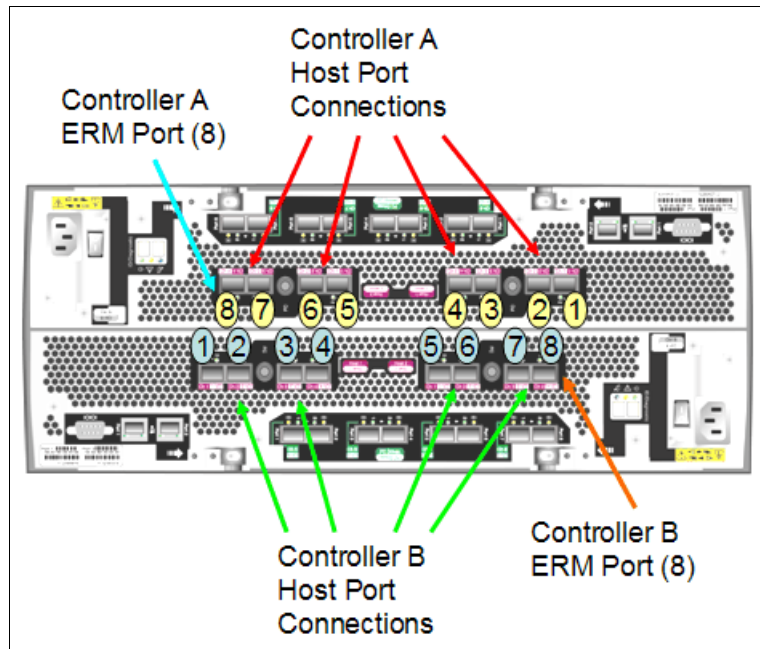
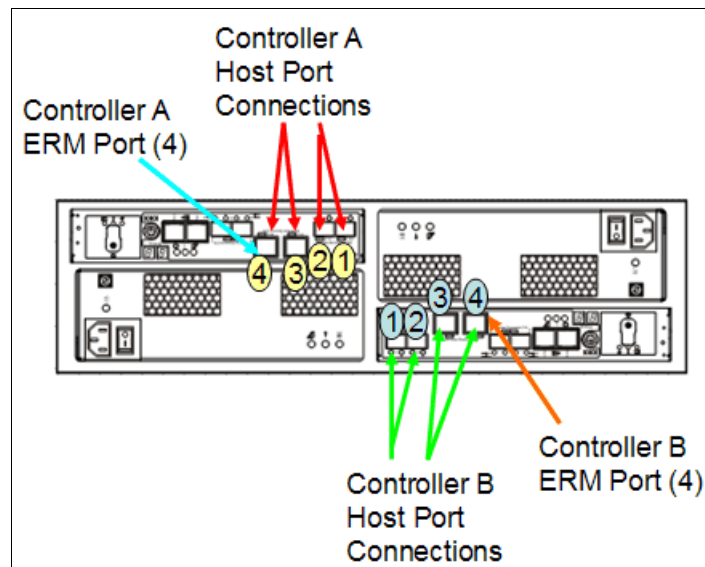
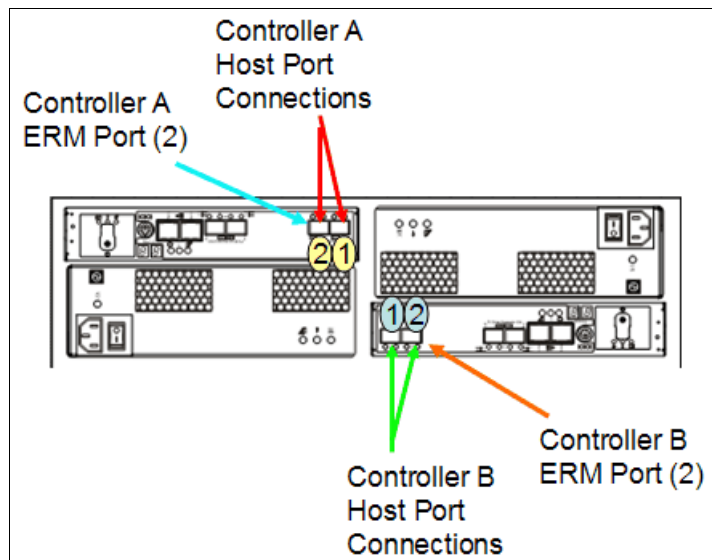
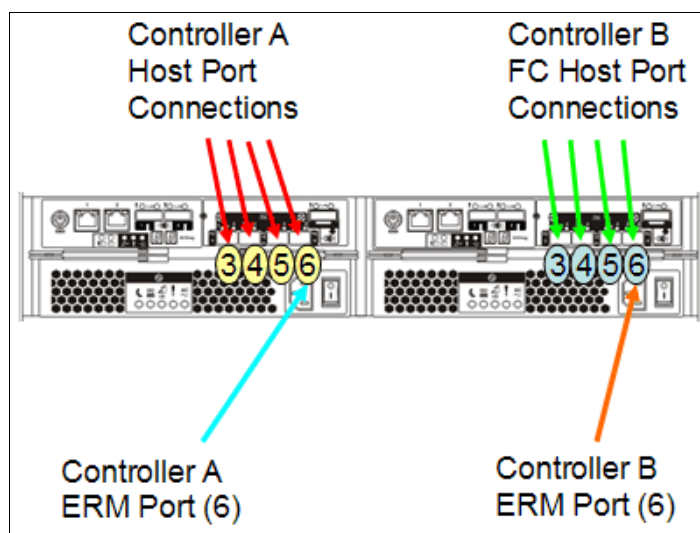

Figure 4-9 Host-side ports for host and ERM connections on DS5100 and DS5300
Figure 4-10 Host-side ports for host and ERM connections on DS5020 with expanded ports
Figure 4-11 Host-side ports for host and ERM connections on DS5020 base model
Figure 4-12 Host-side ports for host and ERM connections on DS3500
- ▶ On the DS5100 and DS5300 the host port on controllers A and B assigned to ERM is port 8. With the DS5020 and expanded FC host ports, the host port used for ERM is port 4. And with DS5020 base configuration host port 2 on controllers A and B would be used. See Figure 4-9, Figure 4-10, Figure 4-11 on page 126, Figure 4-12 on page 126 for the host-port locations.
- On the DS5020 with four 4 Gbps FC host ports, use host ports A2 and B2; see Figure 4-11 for the host-side port locations.
- With the DS3500 you must purchase the FC option to include the FC host interface daughter cards with the controllers. The port assignments for the FC ports are port 3 through 6 (port 1 and port 2 are the built-in SAS ports on the controllers). For ERM you must dedicate FC ports A6 and B6 to the mirroring. See Figure 4-12 for the port locations.